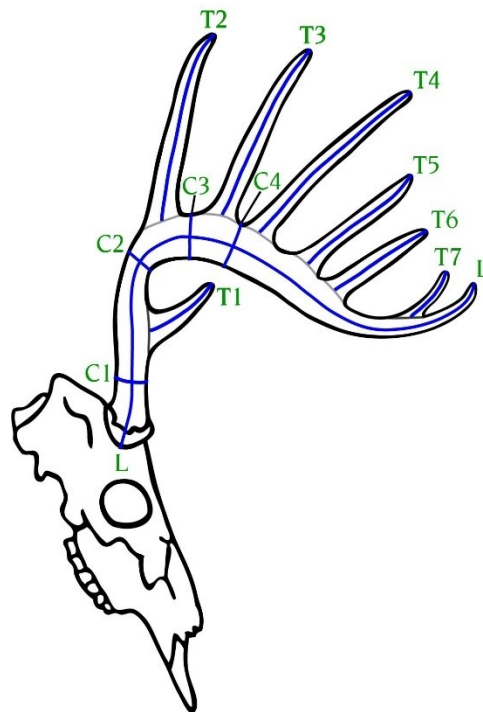

Figure 1
1. Identify tines. Start by drawing a baseline for all tines, T and NT, with a pencil (Figure 1 and 2), as explained in GDI, even if they appear to be slightly less than 1 inch. This is so you will not miss a potential valid point. All tines must be 1 inch or more and not be any wider along the baseline than they are long to be valid; see GDI. If a rack has many NT tines, we recommend that you mark all typical tines with red paper tape and all NT tines with blue tape; you will remove these pieces of tape as you measure the head. This ensures you do not overlook any tines or measure any twice.
2. Main beam. A cable is the best tool for measuring the main beam. Measure the main beam on the center of the outside curve from the lowest edge of the burr to the tip. (Figure 1, L) The main beam is the part of the antler that curves forward, is closest to the skull, and in most cases curves inward at the tips. Before starting, mark the center points along the beam to the tip with a pencil; the center points are halfway between the baselines of the tines and the bottom of the beam. The cable must not be pressed into the groove above the burr. Stay on the outside center of the main beam at all times; see GDI.
Measure from the top of a tine to the center baseline as delineated. You may have drawn baselines on some tines that were just under 1 inch; do not record these. First, measure the length of the eye guard; if the eye guard is bifurcated, measure the longest tine. If there are more valid tines on/near an eye guard, these need to be measured as NT; see below. Measure the lengths of the T2, T3, and T4, and all other typical tines (Figures 1, 2, and 3.)